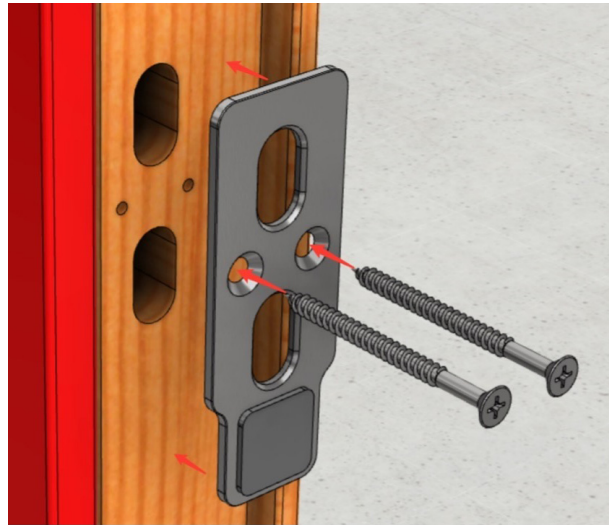

Fig BPT 7
- Apply the Alignment Pin Covers to the Astragals using the #10 2 1/2" flat headscrews as shown in Fig BPT 7.